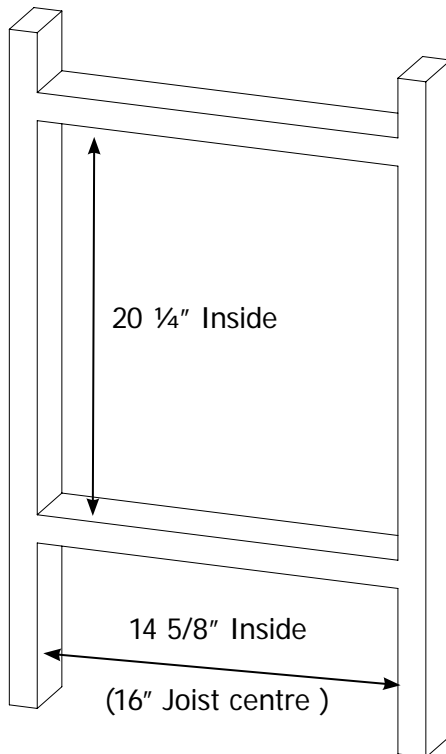

Figure 7: Power Vent Framing Dimensions
2. Cut and frame an opening that is **20 1/4" (514mm) tall by 14 5/8" (371mm) wide** for the exterior thimble as shown in Figure 7.